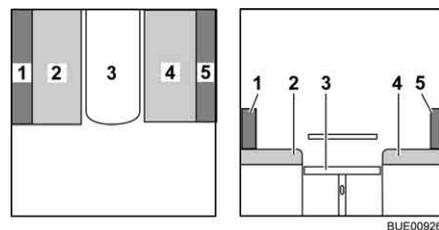

Fig. 96 During conversion
- Remove the back cushion (Fig. 96,5) and lay it aside.
- Pull the seat cushion (Fig. 96,2) into the middle.